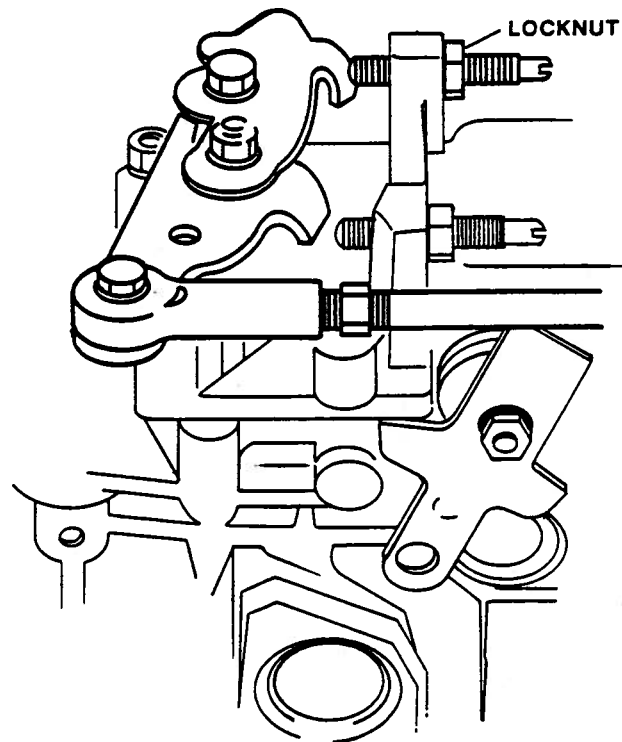

Figure 4-11. Idle Speed Adjustment
- b. Loosen locknut (figure 4-11).